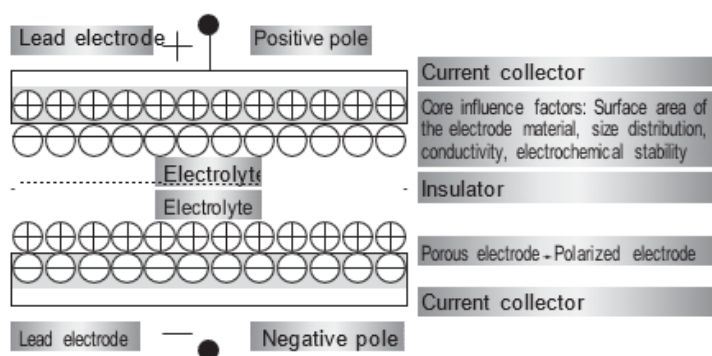

Figure 3 | The basic structure of the supercapacitor
5.7. MATERIAL OF SUPERCAPACITOR (FIGURE 3 AND 4)